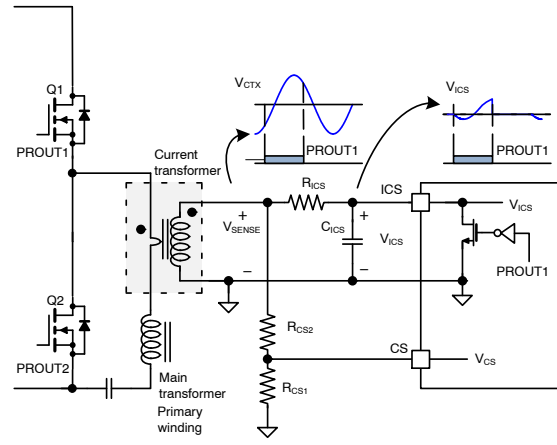
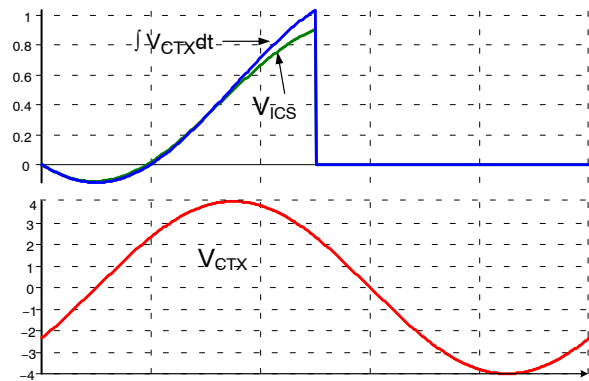

Figure 61. Current Sensing of NCP4390
Figure 62. Disable PWM mode with COMP Voltage
NCP4390 senses instantaneous switch current and the integral of the switch current as illustrated in Figure 61. Since NCP4390 is located in the secondary side, it is typical to use a current transformer for sensing the primary side current. While the PROUT1 is LOW, the ICS pin is clamped at 0 V with an internal reset MOSFET. Conversely, while PROUT1 is high, the ICS pin is not clamped and the integral capacitor (CICS) is charged and discharged by the voltage difference between the sensing resistor voltage (VSENSE) and the ICS pin voltage. During normal operation, the voltage of the ICS pin is below 1.2 V since the power limit threshold is 1.2 V. The current sensing resistor and current transformer turns ratio should be designed such that the voltage across the current sensing resistor (VSENSE) is greater than 4 V at the full load condition. Therefore the current charging and discharging CICS should be almost proportional to the voltage across the current sensing resistor (VSENSE). Figure 62 compares the VICS signal and the ideal integral signal when the amplitude of VSENSE is 4 V. As can be seen, there is about 10% error in the VICS signal compared to the ideal integral signal, which is acceptable for most designs. If more accuracy of the VICS is required, the amplitude of VSENSE should be increased.
2. Over-Current Protection (OCP2): When  $V_{CS}$  is higher than 3.5 V or lower than -3.5 V, over-current protection (OCP2) is triggered. The instantaneous primary side current is also sensed on CS pin. Since the OCP2 thresholds on the CS pin are 3.5 V and -3.5 V as shown in Figure 66, the CS signal is typically obtained from  $V_{SENSE}$  by using a voltage divider as illustrated in Figure 61. 150 ns debounce time is also added for OCP2